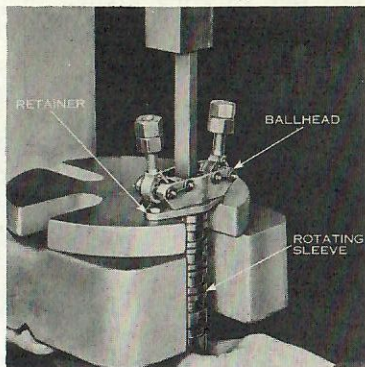

FIG. 31-1
2. Press rotating sleeve out of ballhead as shown in Fig. 31-1.